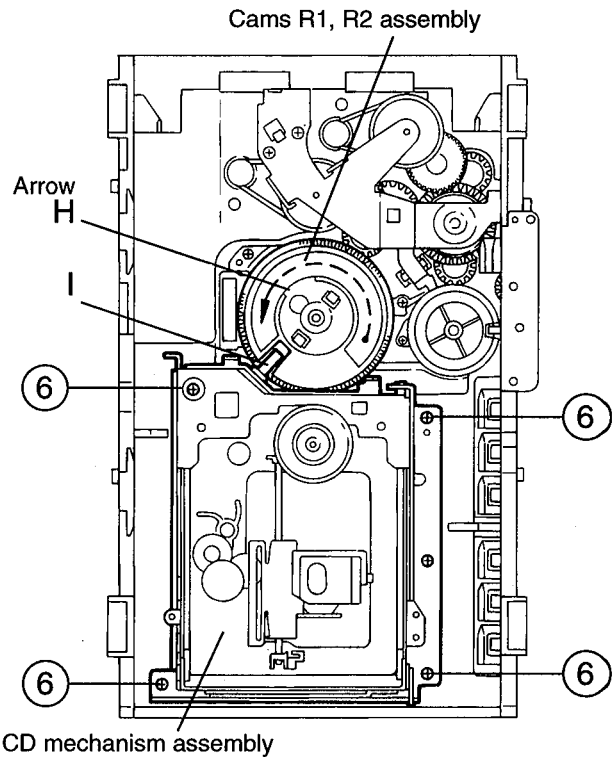

Fig.10
■ Removing the CD mechanism assembly(See Fig.10)
1. While turning the cams R1 and R2 assembly in the arrow direction "H" , align the shaft "I" of the CD mechanism assembly to the position shown in Fig.10.